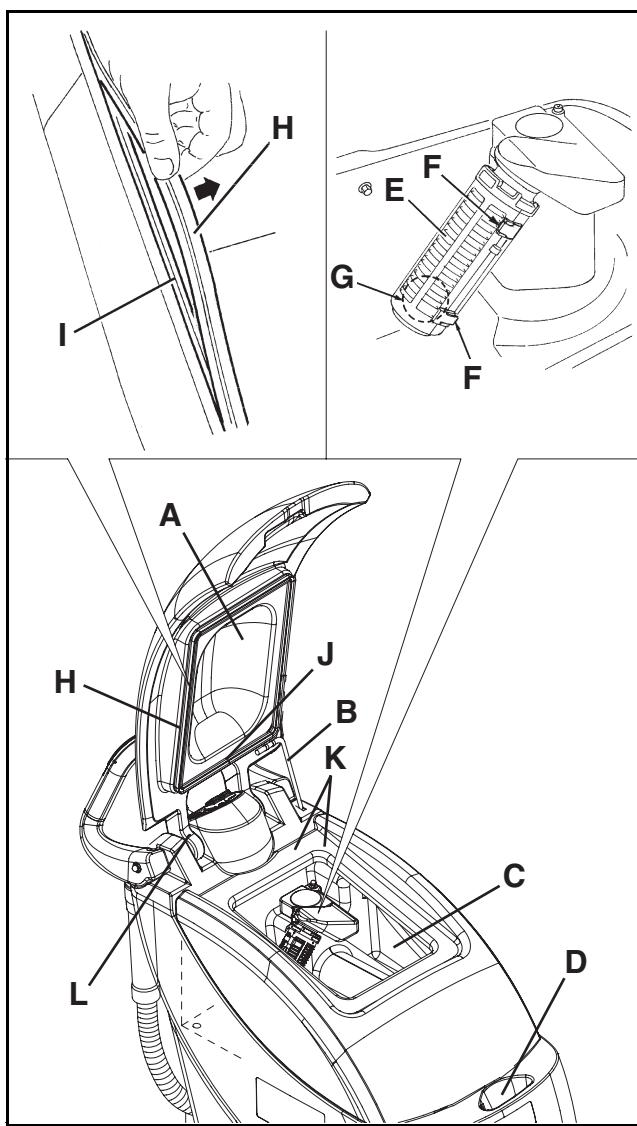

Figure 27
3. Lift the cover (A, Fig. 27) and apply the cover stand (B), then clean and wash the cover, the tanks (C and D) and the vacuum grid (E) with clean water.
4. If necessary, release the retainers (F, Fig. 27), open the vacuum grid (E), remove the float (G), then carefully clean and reinstall them.
5. Check the cover sealing gasket (H, Fig. 27) of the recovery tank for wear.
The gasket (H, Fig. 27) creates vacuum in the tank, which is necessary for the vacuuming of the recovery water.
If necessary, replace the gasket (H, Fig. 27) after removing it from the housing (I). When reassembling the new gasket, install the joint (J) in the central area, as shown in Fig. 27.
6. Check the gasket (H, Fig. 27) seating surface (K) for integrity and sealing capabilities.
7. Check the vent hole (L, Fig. 27). If clogged, clean it.
The hole (L, Fig. 27) compensates the air in the cover interspaces, thus allowing the creation of vacuum in the recovery tank.
8. Remove the cover stand (B, Fig. 27) and close the cover (A).